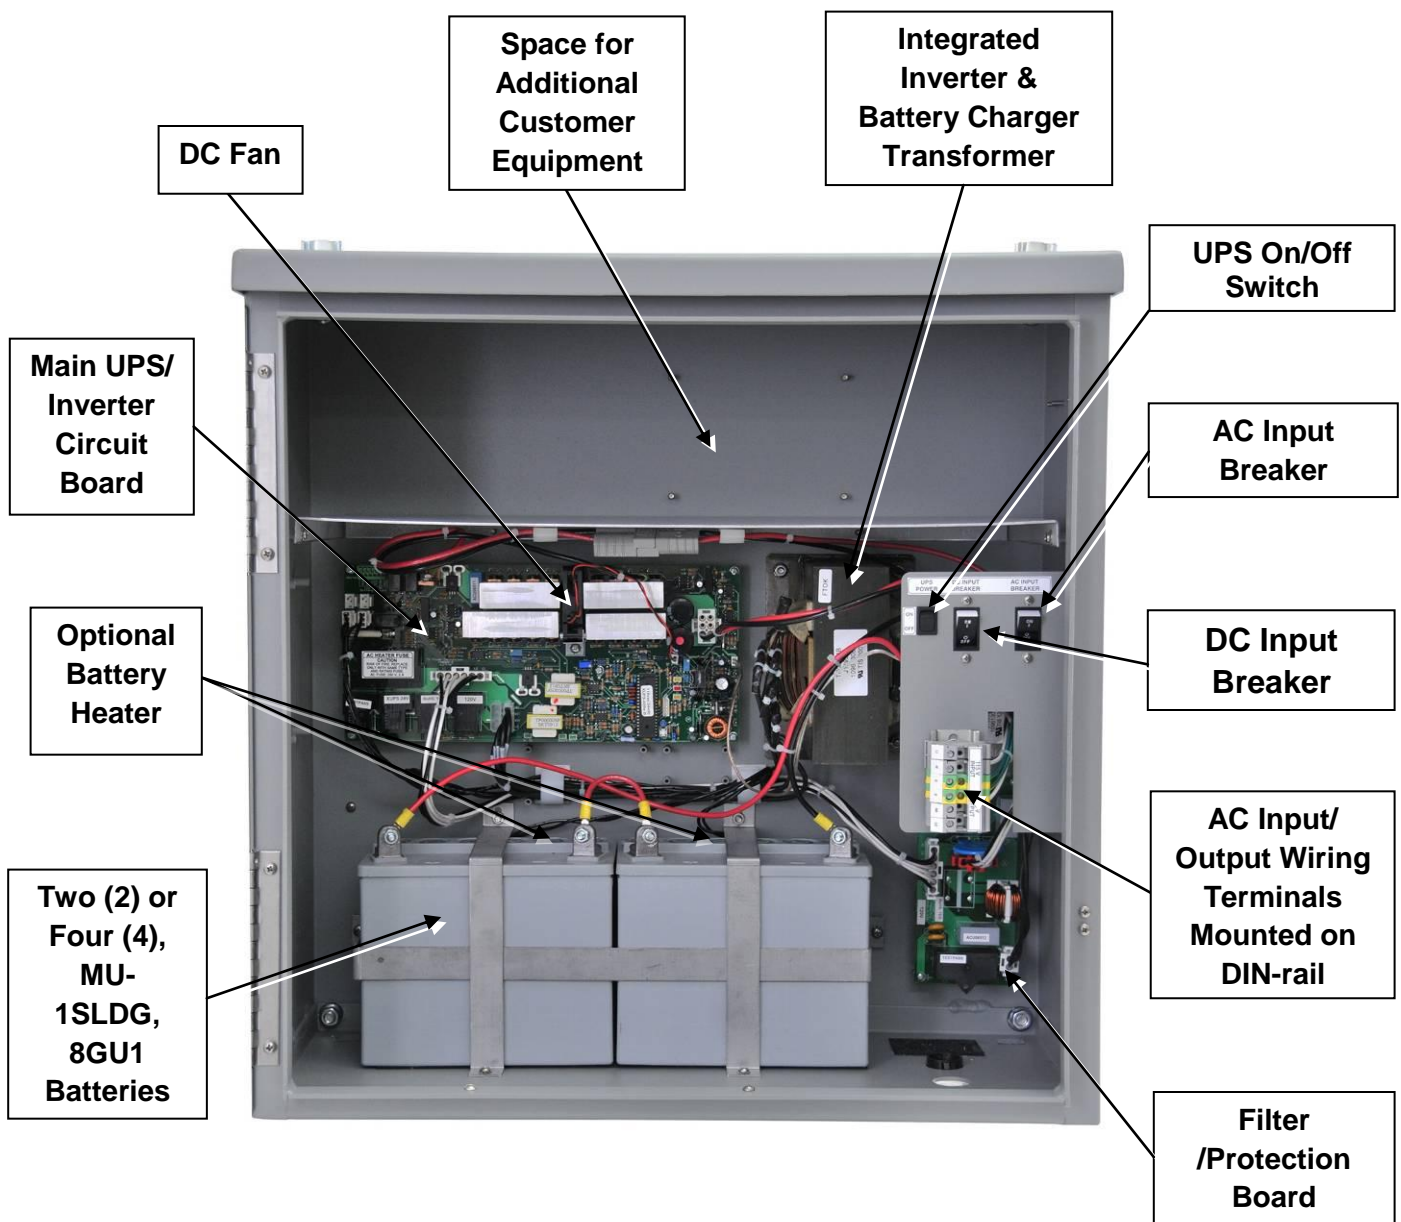

Figure 3: Electronic/Battery Compartment w/Door Open
1.7 FRONT ACCESS (Electronic/Battery Compartment) See Figure 3